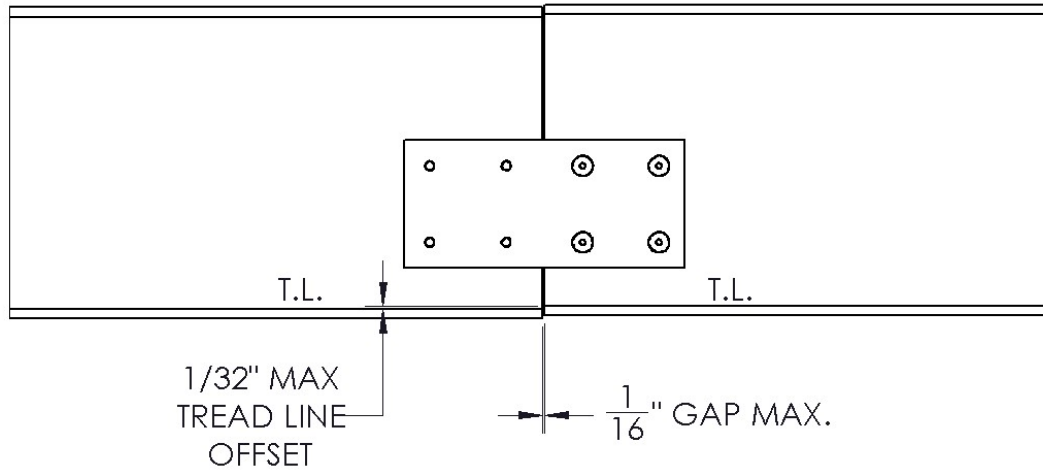

Figure 5: Runway Alignment
8. To align runway rail for smooth operation. Maximum misalignment at T.L. (treadline) should not exceed 1/32" vertical & horizontal (see figure 5). If misalignment is greater than 1/32" use grinder to feather joint until you have a smooth transition.